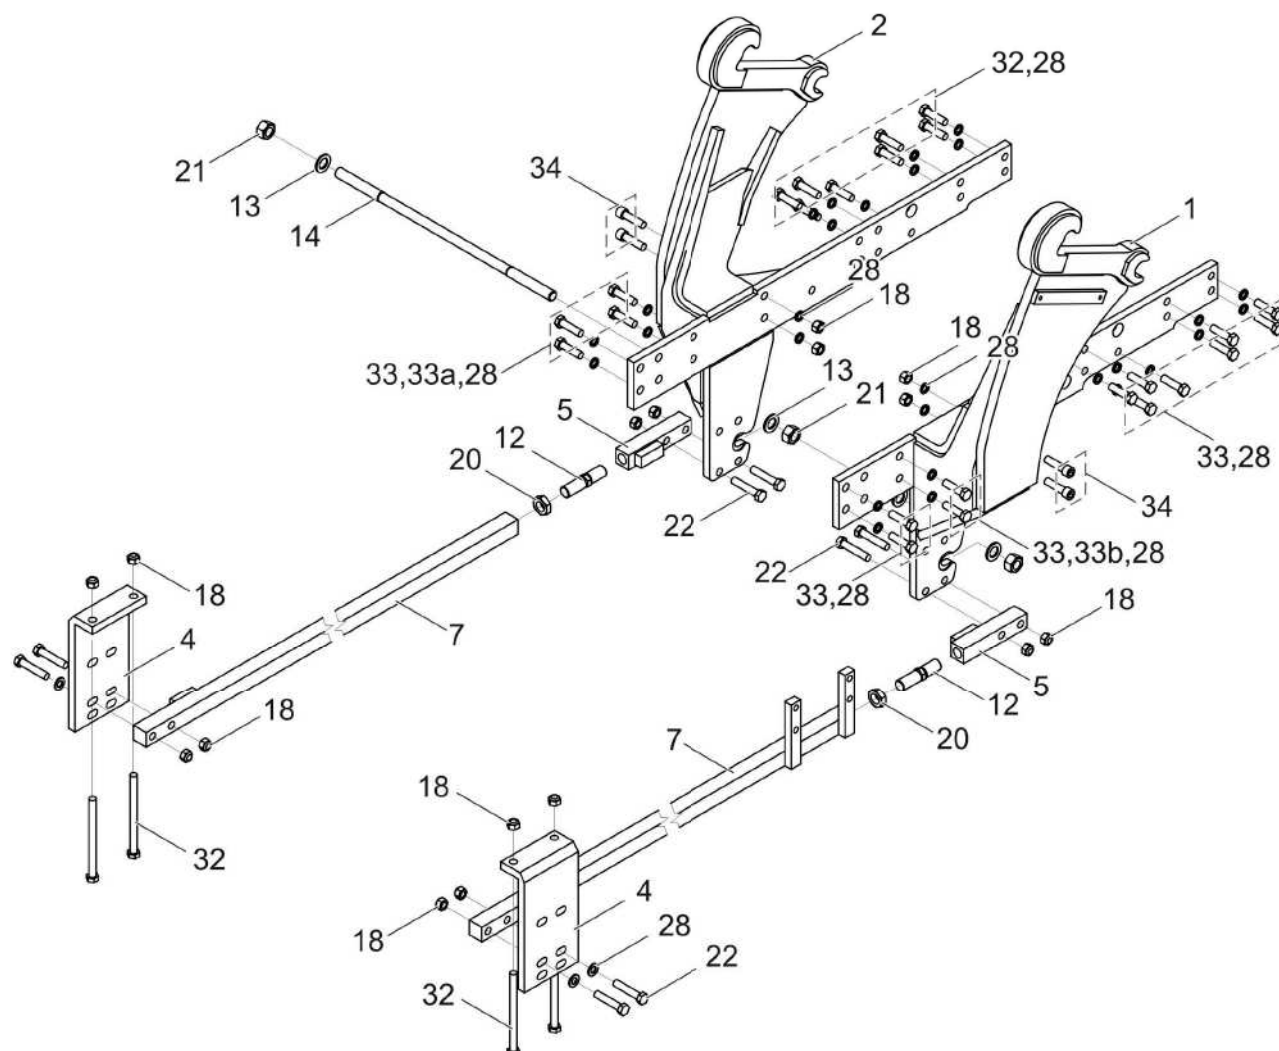
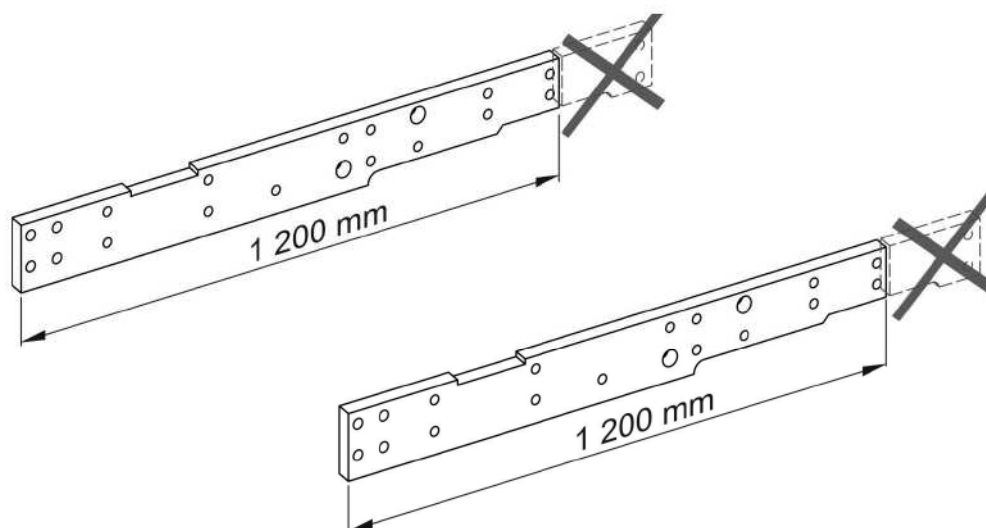

FIG. 4.5A Mounting bearing frame on 82A/82SA/82TSA; 82AII/82SAII/82TSII tractors
FIG. 4.20A Modification of half frame reinforcing strips of BELARUS tractors
(1)- right bracket; (2)- left bracket; (4)- brace bracket; (5)- short beam; (7)- brace rod; (12)- double ended bolt; (13)- special washer; (14)- securing rod; (18)- M16 nut; (20)- M27x2 nut; (21)- M20 nut; (22)- M16x80 bolt; (23)- M16x70 bolt; (24)- M14x35 bolt; (28)- Z16,3 spring washer; (32)- M16x210 bolt; (33)- M16x60 bolt; (33a)- M16x80 bolt only in 82AII/SAII/TSII; (33b)- in 82AII/SAII/TSII tractors use bolts securing fuel tank bracket; (34)- M16x60 Allen bolt
In 82A/SA/TSA tractors brackets (1) and (2) FIG. 4.5A) screw down to tractor frame with bolts (33) with washers (28) and also bolts (34) with nuts (18) and washers (28). Leave strips reinforcing tractor half frame. In versions of tractors without strips mount them before proceeding according to sketch (FIG. 4.20A). Brace bracket (4) secure to driving axle using bolts (32) and nuts (18). To brackets (4) provisionally screw down with bolts (22) and nuts (18), brace rods (7), of which the second end is connected with brackets (1) and (2) using bolts (22) and nuts (18). In tractors with front three-point linkage supports (7) secure in lower bracket openings (4), in tractors without front three-point linkage— in central openings. Make certain that double ended bolts (12) are uniformly screwed out from brace rods (7) and beam (5). Mount securing rod (14) in brackets (1) and (2) using nuts (21) with washers (14). Eliminate slack from bearing frame by screwing out double ended bolt (12) from brace rod (7) and beam (5), tighten counter nuts (20). Tighten with nuts the bolts (22) securing brace rods (7) to brackets (4),(1),(2).